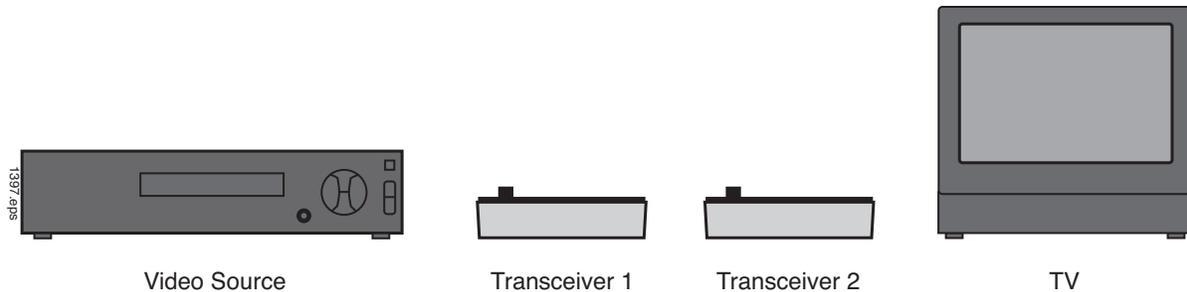

Figure 10. Initial position of equipment for completing video signal transmission over optical fiber.
1. Position the video source, the two transceivers and the television on the table top as shown in Figure 10.